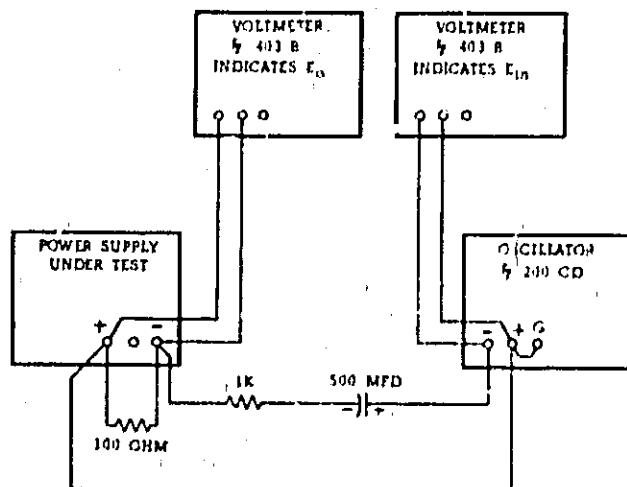

Figure 5-11. Output Impedance, Test Setup
- Connect test setup as shown in Figure 5-11.